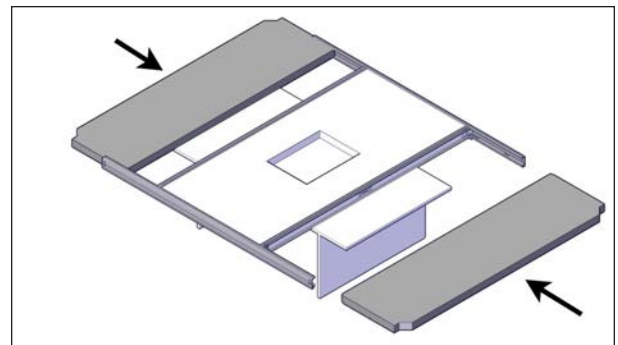

FIGURE 40: END PANELS
4. Slide the end panels on both ends of the cover. Make sure the I-beams have slid over the panel on both bottom and top side see Figure 40.